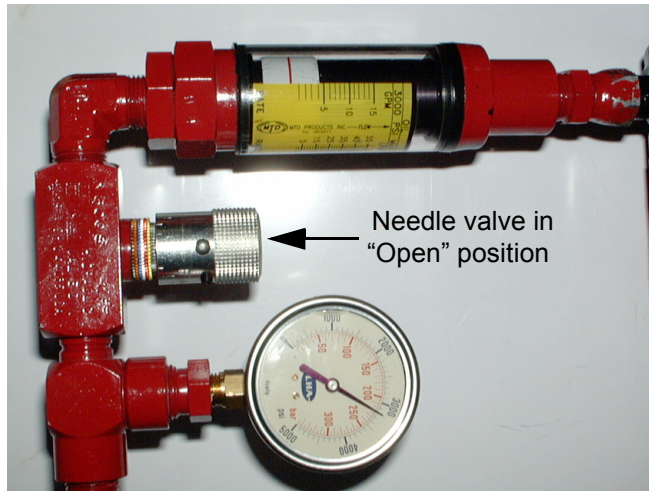

Figure 5
2. Rotate the needle valve counter-clockwise to the completely open position.____ See Figure 5.